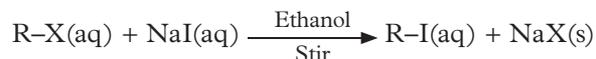

FIGURE 5 The substitution of a haloalkane to form another haloalkane
If you add a haloalkane (RX) to a solution of sodium iodide in ethanol (or another organic solvent) and stir, the halogen will be substituted by iodine (Figure 5). Iodide is the most reactive of the halides for this type of substitution, followed by bromide and then chloride.